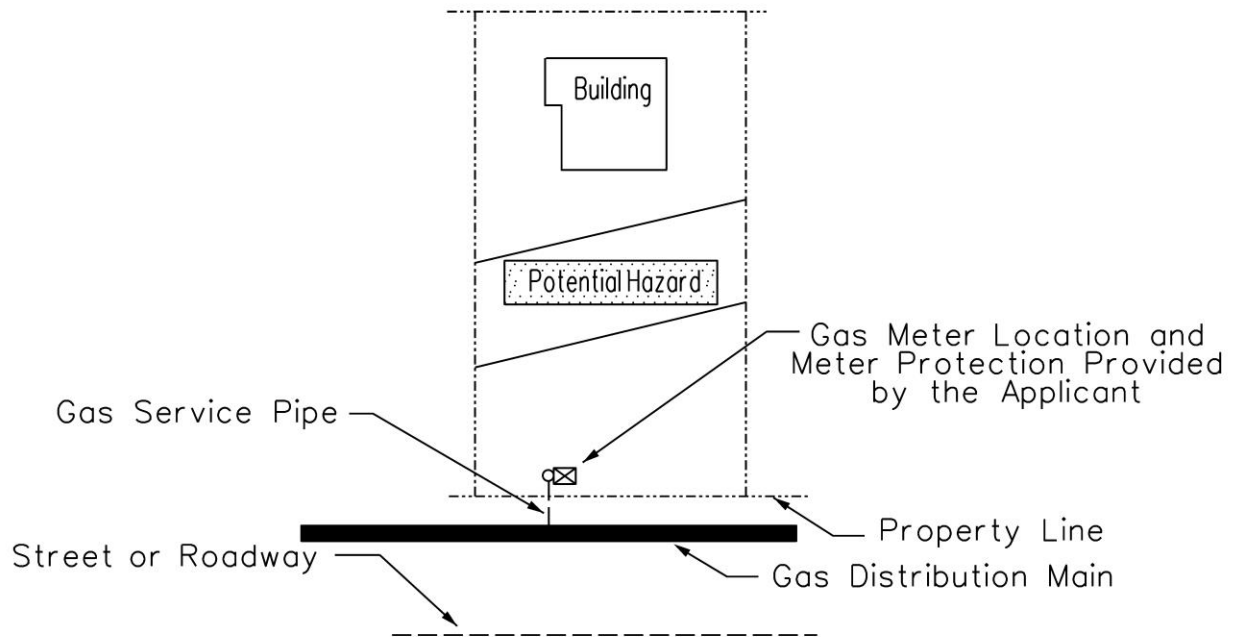

Figure 9. Property Line Installation
- (b) At the customer's property line, if a location exists where the meter set can be properly protected from damage by vehicles and anticipated damage. The service and meter set location must allow inspection for operation and maintenance activities. (See Figure 9.)